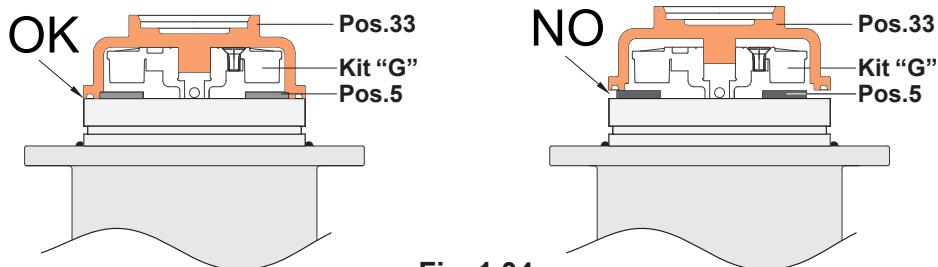

Fig. 1.04
1.2.04) Fit the diffusor kit on the impeller kit "G", making sure to position the washer pos. 5 correctly (see fig. 1.04).